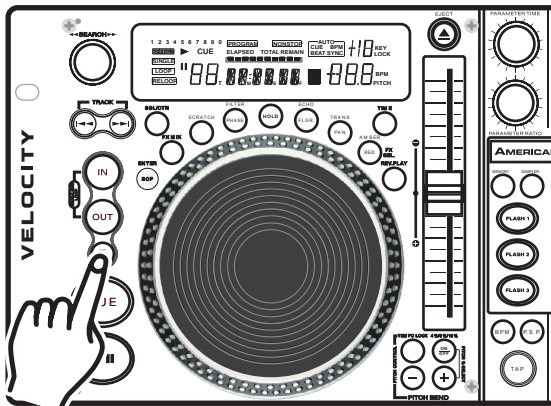

Figure 23
Please Note: Only the end point of the loop may be edited. You may make your loop shorter or longer. Before you can edit your seamless loop you obviously must first have created a seamless loop to edit. If you haven't created a SEAMLESS LOOP, follow the instructions in step 10 to create a loop. If a SEAMLESS LOOP has already been created, press the **RELOOP BUTTON (1)** to activate your SEAMLESS LOOP (Figure 23) if it is not already activated. To edit your seamless loop's ending point: